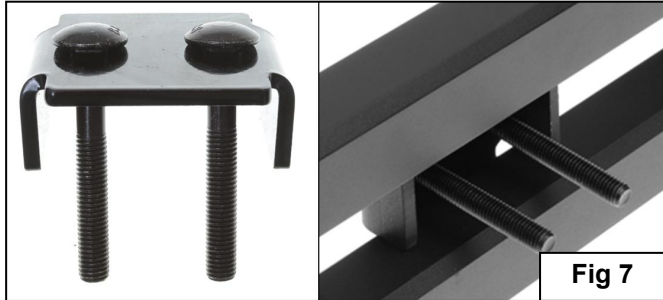
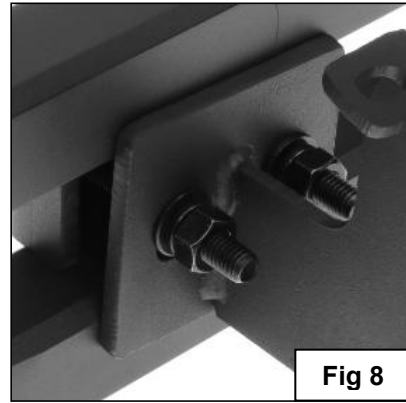

Fig 7
Fig 8
5. Select the Driver Side Bar. Slip (2) M10X1.5-75 Carriage Bolts into each 2-Hole Support Brackets, and insert the 2-Hole support bracket into the Driver Side Bar. **(Fig 7)**. Carefully position the Bar onto the (4) Mounting Brackets. **IMPORTANT:** Do not slide the Bar on the Brackets or damage to the finish may result. Attach the Driver Side Bar to the Mounting Brackets with (2) M10 Hex Nuts, (2) 10mm lock washers and (2) 10mm flat washers, **(Fig 8)**. Do not tighten hardware.